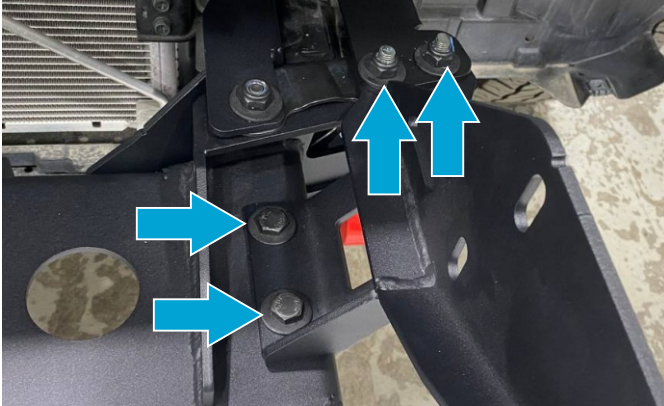

Fig.55
49. Tighten all hardware as shown in Fig. 55.